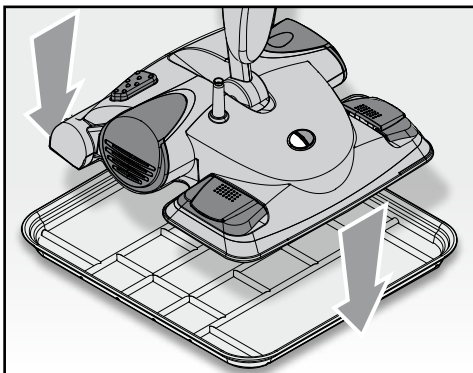
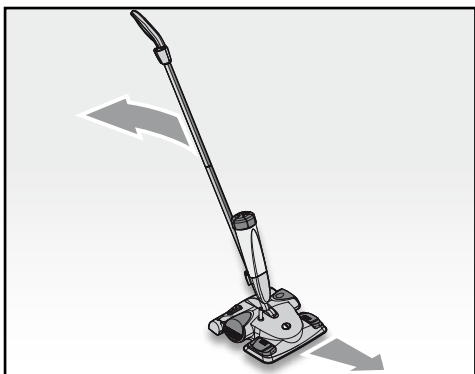

Fig. 6
Fig. 7
WARNING: TO PROTECT PARQUET OR OTHER FLOORING IN CASE IS STEAM RELEASED DURING THE PRE-HEATING STAGE, WE RECOMMEND THAT YOU PLACE THE CLEANER PAD INSIDE THE SPECIAL BASE (A) PROVIDED (FIG. 6).
- When the indicator light (R) switches on to show that the steam is ready, the appliance is ready to be used with steam.
- Tilt the handle (I) and align the handgrip (H) in the direction of use (Fig. 7), then proceed to use the appliance.